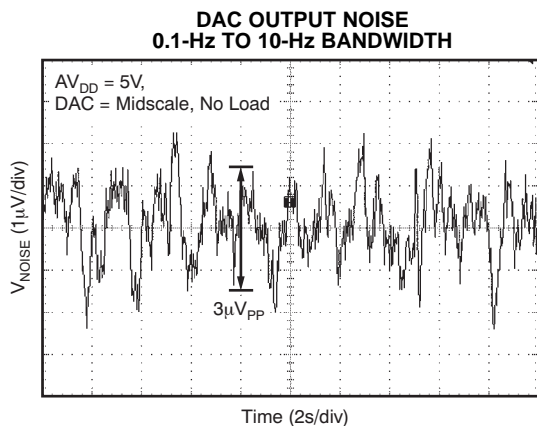

Figure 17.
(5) For more details, see Figure 17.